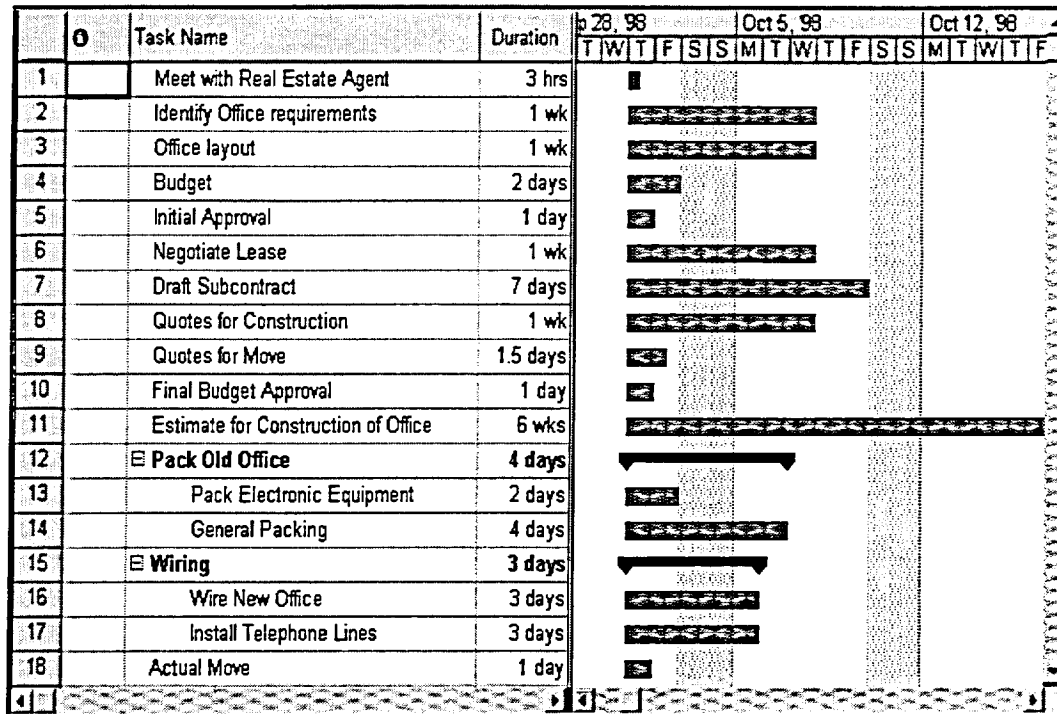

Figure 2-11: The Project After Saving
14. Save the project as H:\Doc\Move-Rev 2a.mpp. Your project should look similar to Figure 2-11.